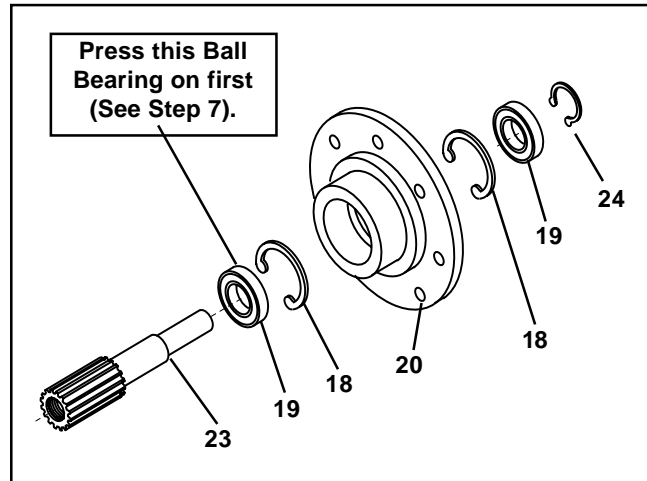

FIGURE 14
4. Remove the Retaining Ring (Item 24) and press the Stub Shaft (Item 23) out of the Male Pilot (Item 20) (See Figure 14).
**The two old Ball Bearings (Item 19) are removed from opposite ends of the Male Pilot (Item 20). Do not remove the Retaining Ring(s) (Item 18) (See Figure 14).**
5. Remove the two old Ball Bearings (Item 19) from the Male Pilot (Item 20) (See Figure 14).
6. Clean the bearing bore of the Male Pilot (Item 20) with fresh safety solvent, making sure all old Loctite® residue is removed (See Figure 14).
7. Press one new Ball Bearing (Item 19) onto the Stub Shaft (Item 23) (See Figure 14).
8. Apply an adequate amount of Loctite® 680 to evenly coat the outer race of the second new Ball Bearing (Item 19) and press it into the output side of the Male Pilot (Item 20) until it is seated against the first Retaining Ring (Item 18) inside the Male Pilot (See Figure 14).
9. Apply an adequate amount of Loctite® 680 to evenly coat the outer race of the new Ball Bearing (Item 19) pressed onto the Stub Shaft (Item 23). Then, press the new Ball Bearing and Stub Shaft into the Male Pilot (Item 20) until the Ball Bearing is seated against the second Retaining Ring (Item 18) (See Figure 14).
10. Reinstall the Retaining Ring (Item 24) (See Figure 14).